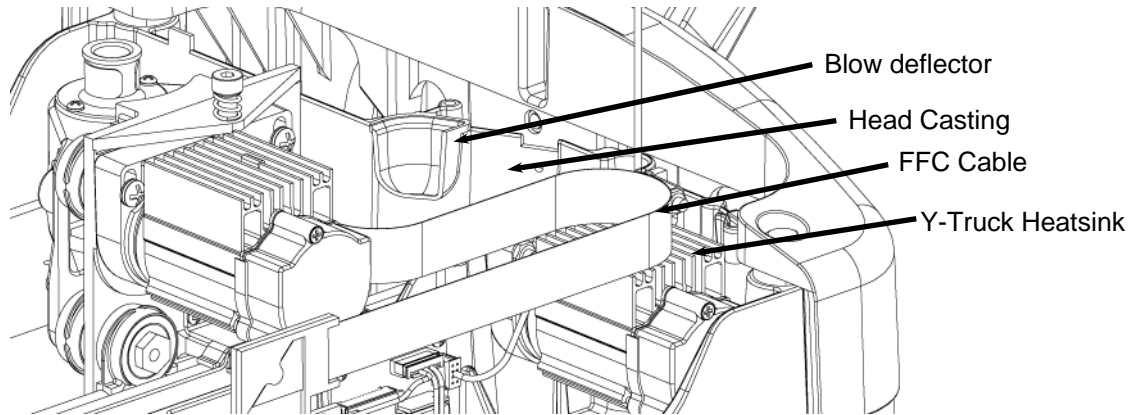

FIGURE 15: PLACEMENT OF THE BLOW DEFLECTOR - ISO
- a. Move the Y-truck all the way to the left side of the machine and make sure that the FFC cable does not drag on the Y-truck heatsink (See Figure 15). If the FFC cable is dragging bend it upwards so that it consistently clears the heatsink.